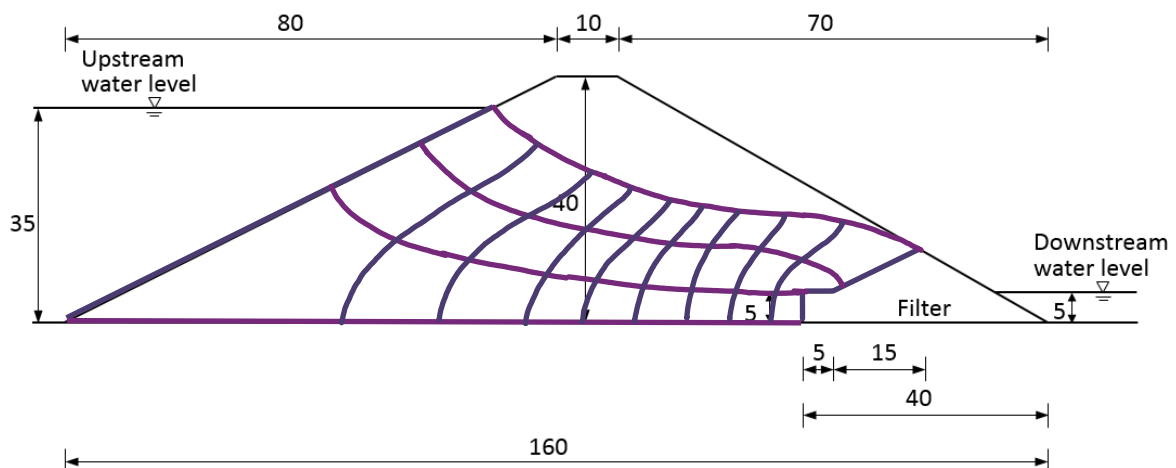

Figure Q1 (all dimensions in mm)
- b.) A section through a model experiment designed to investigate flow through an earth dam, similar to that used in your laboratory class, is shown in Figure Q1.
- (iii) If the dimensions given in Figure Q1 represent a given scale (e.g. 1:10), what additional information would you need to calculate the flow? (8 marks)